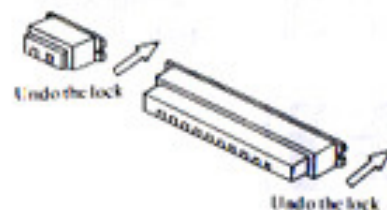

Figure 10-13
- Undo the lock on the main P.C. board flat cable connector (P7, P8). (Refer to Figure 10-13)